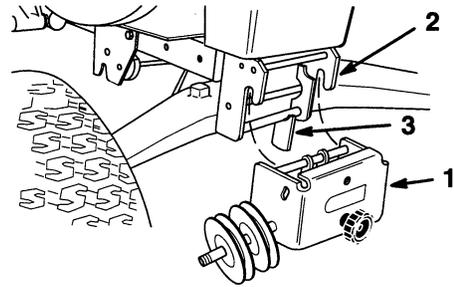

Figure 17
8. Open front hitch and remove pulley assembly (Fig. 17).